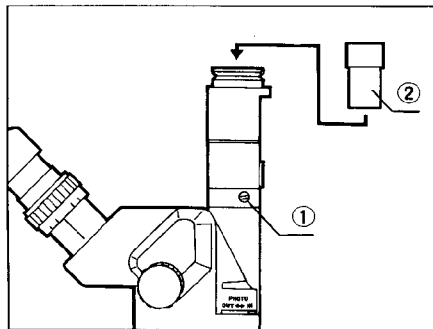

Fig. 9
- (1) After loosening the body clamping knob ①, align the positioning groove of the photo tube with the positioning pin and mount the photo tube. (Fig. 9)
- (2) Securely attach the photo tube by tightening the clamping knob.
- (3) Insert the photo eyepiece ② into the photo tube. (Fig. 9)